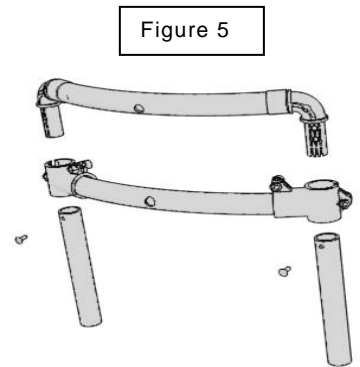

Figure 5
2. Fix the headrest horizontal bend on the backrest's arms (Figure 5).